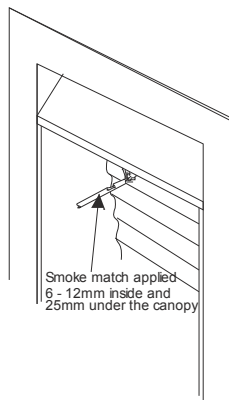

Figure 71
3. Test for spillage using a smoke match (in a 'Blume tube') at the top of the appliance, fireplace opening or under the canopy at the centre, with the smoke match being approximately 25mm under the canopy being approximately 25mm under and 6 - 12mm inside the opening (see **Figure 71**).